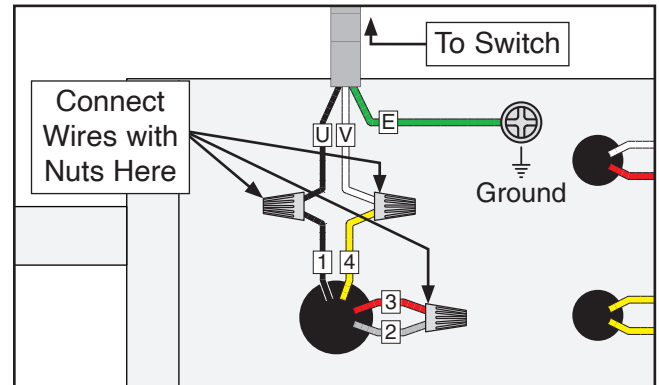

Figure 14. Motor rewired to 220V.
4. Connect wires as indicated in **Figure 14**. Secure wire connections with wire nuts, and wrap them with electrical tape so they will not vibrate loose during operation.